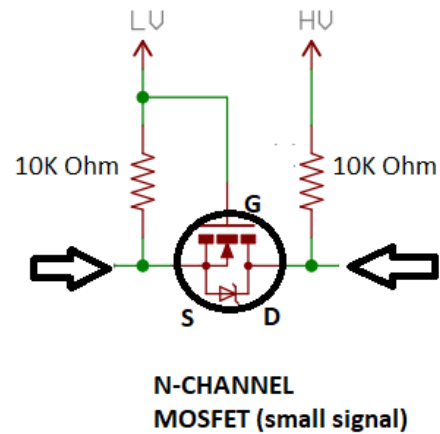

Figure 4 – A simple bidirectional voltage interfacing circuit.
Figure 4 shows a simple circuit to translate digital signals from one level to another. It uses a typical N-channel MOSFET, the BSS138, available in the Proteus libraries. The Zener diode within the symbol is part of the MOSFET device, so it is not something you need to add. The MOSFET drain (D) will connect to the higher voltage signal (e.g., a 5.0 V signal from a device pin), and the source (S) will connect to the lower voltage signal (e.g., a 3.3 V MCU pin). This circuit operates bidirectionally but can only be used for digital signals (not to be used for analog signals).